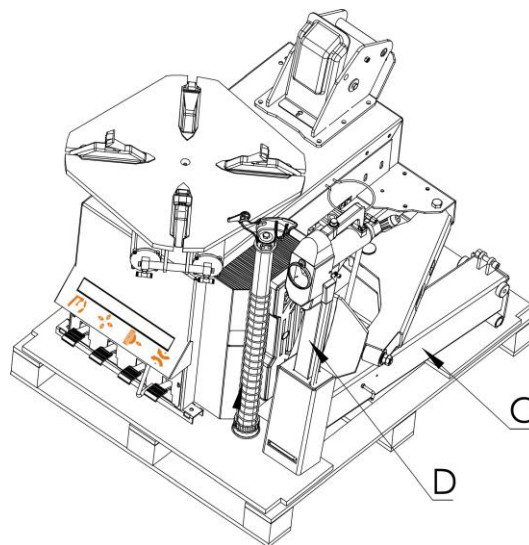

Fig. 4
- The equipment place in the box as show in Fig.4, open the box and dismantle the C, D and the fixed device on other accessories.